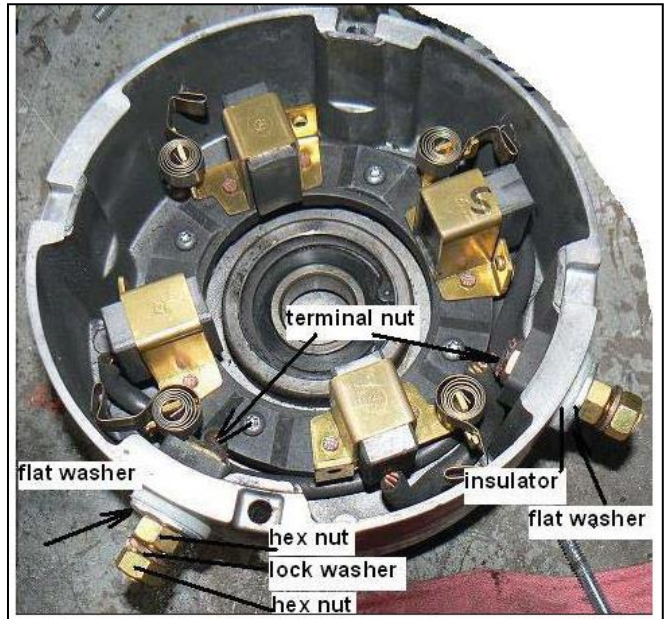

Figure 9-6
6. Remove 1 hex nut, 1 lock washer, 1 hex nut, 1 flat washer and 1 insulator at each brush terminal, A1 and A2. Figure 9-6.